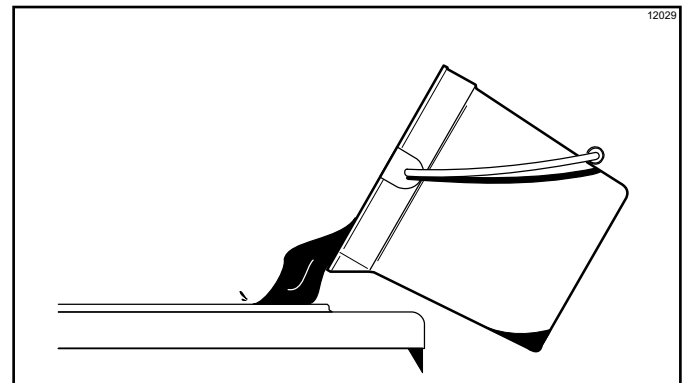

Figure 6-51
1. Pour 2 gal. (7.6 L) of cool, clean water into the mix hopper. With the white hopper brush, scrub the mix hopper, mix-level sensing probe, and the outside of the agitator driveshaft housing. Using the double-ended brush, brush-clean the mix inlet hole. (See Figure 6-51.)